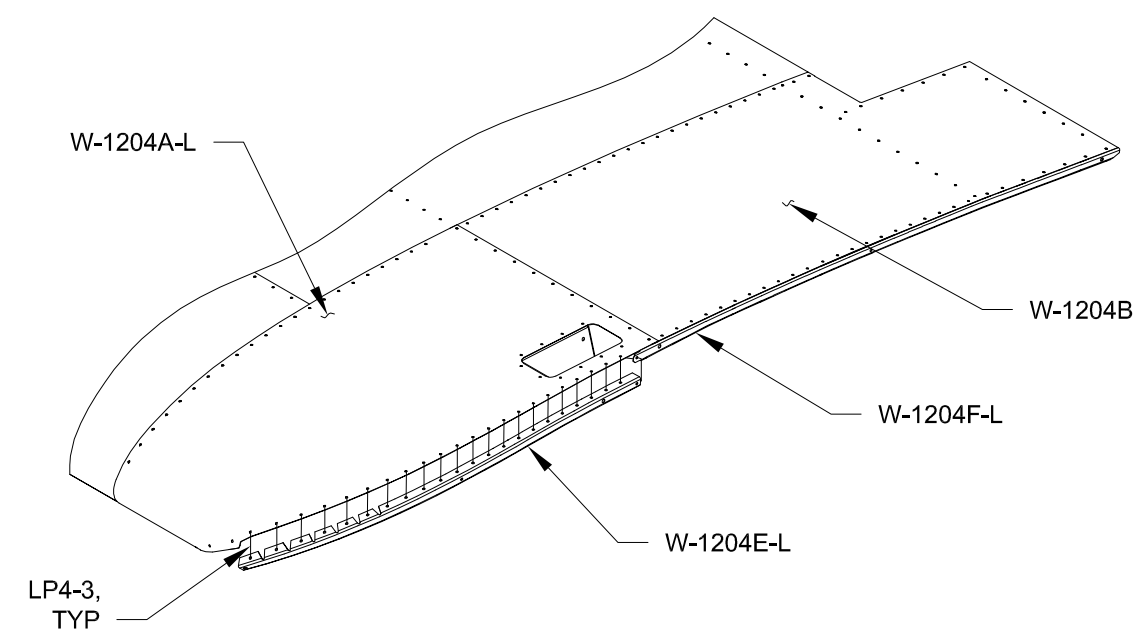

FIGURE 5: ATTACHING THE FWD WING TIP RIB
Step 6: Flute the W-1204E-L Fwd Wing Tip Rib so that it matches the outboard edge of the W-1204A-L Wing Tip Fwd Skin. Rivet the fwd wing tip rib to the wing tip fwd skin and W-1204F-L Aft Wing Tip Rib as shown in Figure 5.